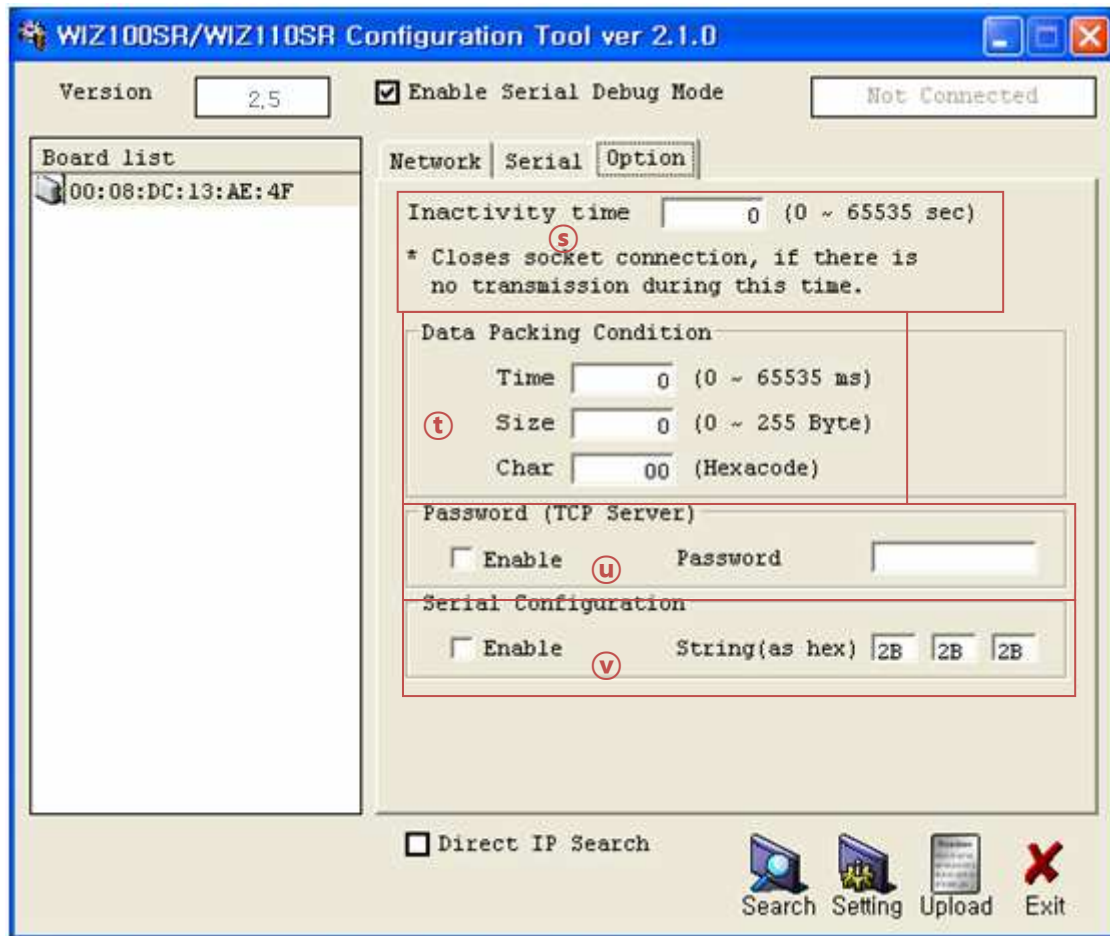

Figure 10. Configuration Tool (Option Config.)
3. As shown in Figure 10, select Option tab and check 'Enable' combo box of "Password" menu.
④Serial Configuration:
- ① Select a module shown in "Board list", and click "Upload" button.
- ☞ Before uploading through Ethernet, you should set the network information of WIZ100SR first by Configuration Tool program as shown above Fig 10. By using Ping test, you can check if network is correctly configured.
- ② When the window as shown below Figure is displayed, select file for upload and click "Open" button.